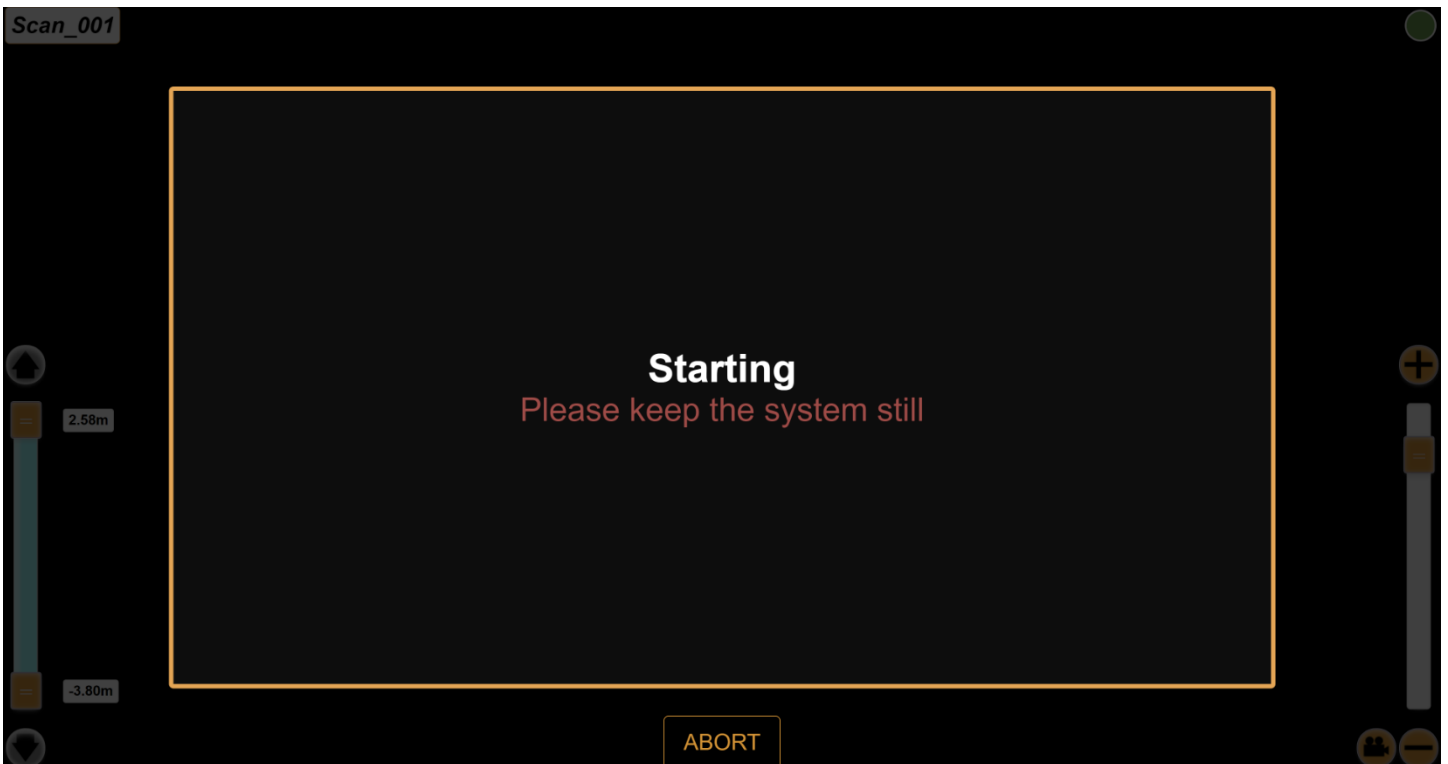

Figure 8-4
Step 6: The system will initialise for approximately 15 seconds (Figure 8-4). The scan head must remain stationary during this period. If the scan head is moved during initialisation the scan will be aborted.